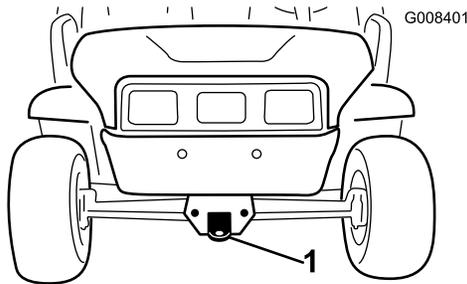
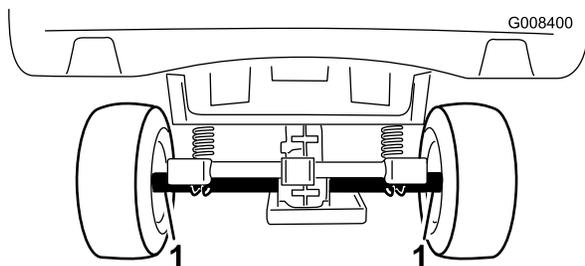

Figure 18
Figure 19
Use a trailer with full-width ramps to move the machine a long distance. Ensure that you secure the machine to the trailer. Refer to Figure 18 and Figure 19 for the tie-down locations on the machine.
2. Affix a tow line to the tongue at the front of the machine's frame (Figure 18).